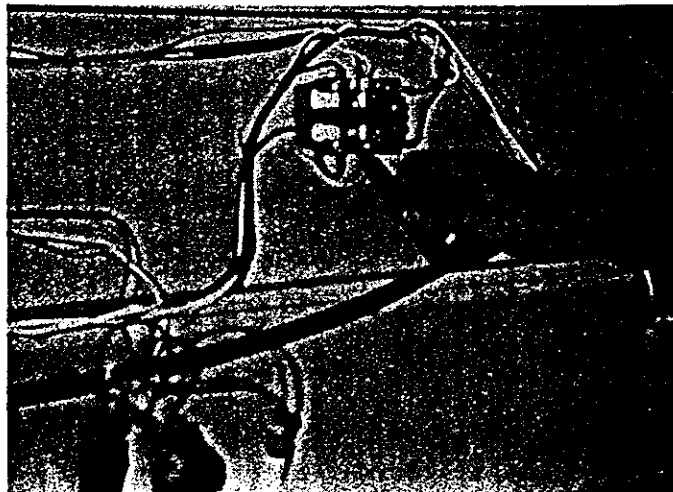

Figure 12.1
STEP 12.2: Check voltage on both sides of auxiliary relay points. If there is a variance, turn power off and file corrosion off contact points (with burnishing tool), see Figure 12.1, then reapply power. The unit should move at its normal rate. If this does not work, go to STEP 12.3.